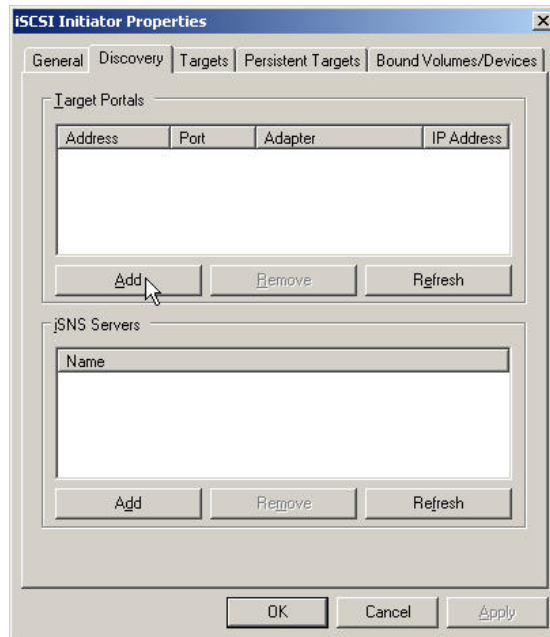

Figure E.14
- Enable switch Trunking function of port 21 and 23. Below is an example of Dell PowerConnect 5324. Go to Figure E.14 for next step.